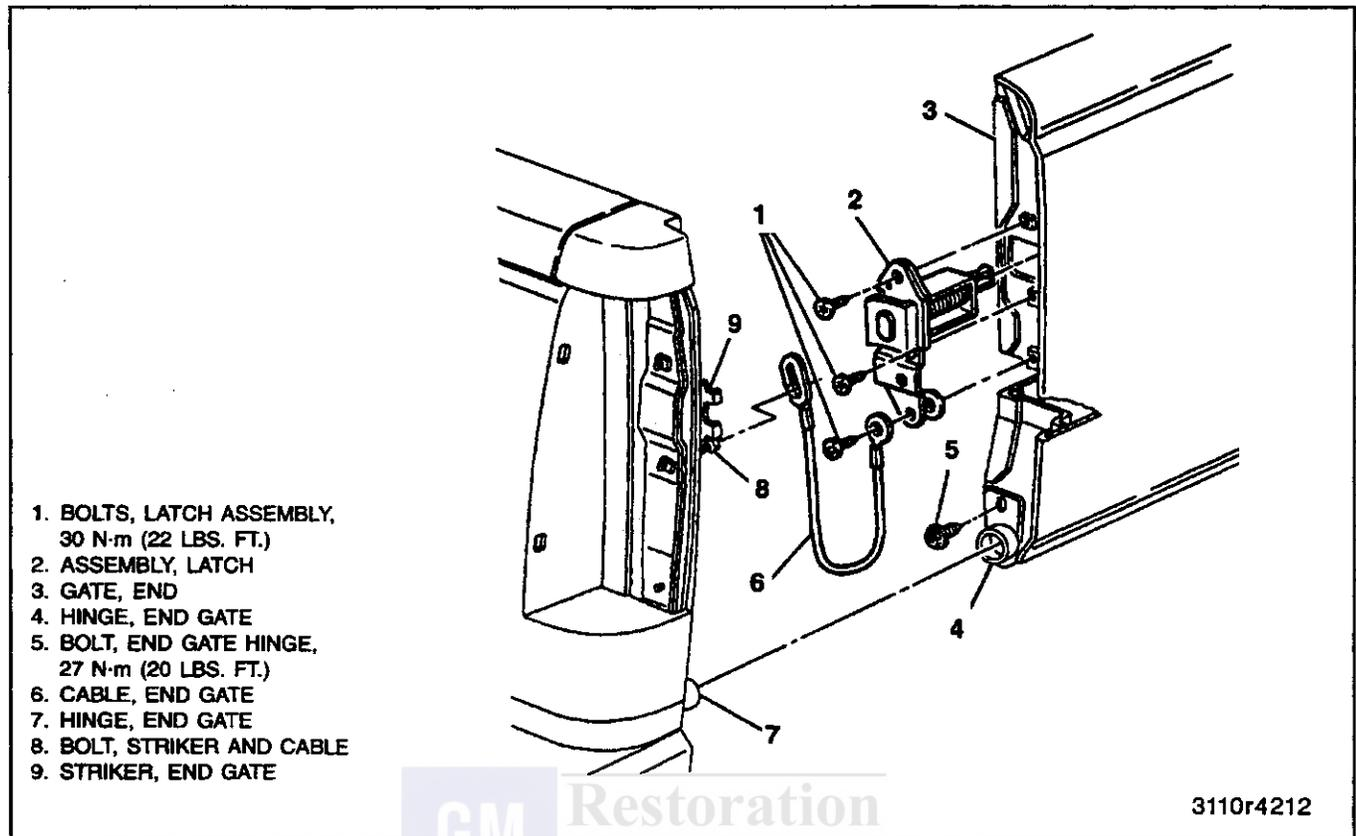

Figure 1—End Cable and Latch Components
Remove or Disconnect (Figures 1 and 2)
Install or Connect (Figures 1 and 2)
Remove or Disconnect (Figure 1 and 3)
⇄ Install or Connect (Figures 1 and 3)
2. Three bolts holding the latch assembly to the end gate (figure 1).
Remove or Disconnect (Figure 1)
Install or Connect (Figure 1)